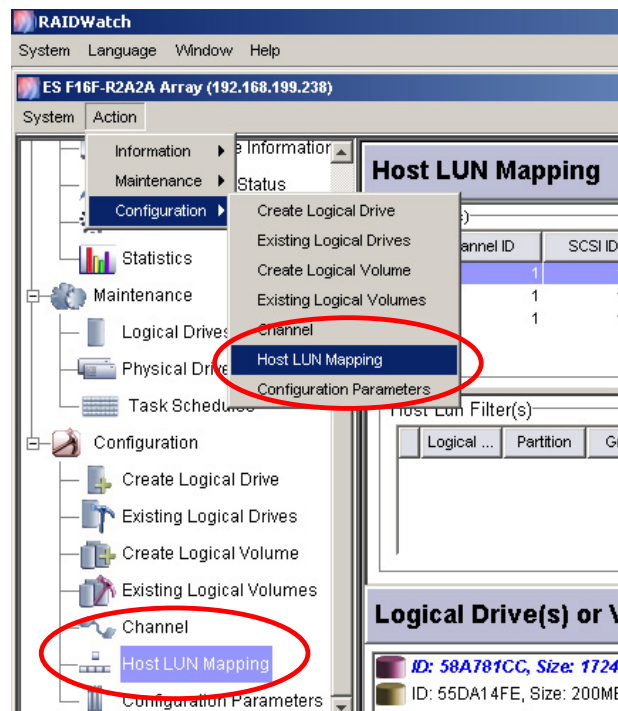

Figure 10-1: Select the Host LUN Mapping Window
Step 1. In the navigation panel under the **Configuration** category, click on the **Host LUN Mapping** where you can find the configuration options with the mapping operation. (See *Figure 10-1*).